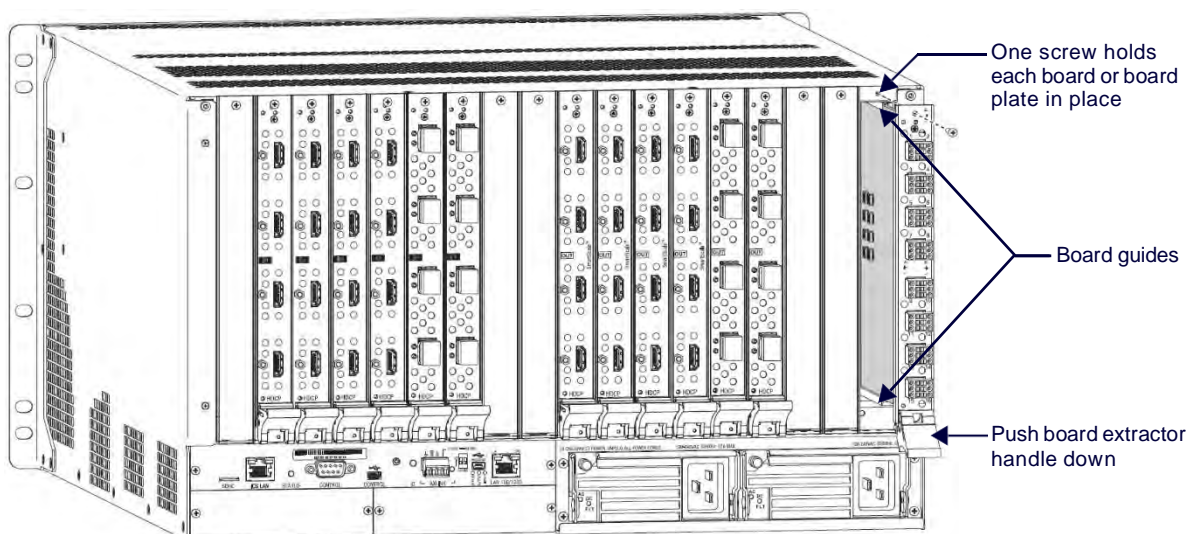

FIG. 106 Remove screw, push board extractor handle down, then pull board straight out (Enova DGX 3200 shown)
4. Push on the board's extractor handle as far as it will go (about a 45° angle). With the handle extended, carefully pull the board straight out of the expansion slot (FIG. 106):